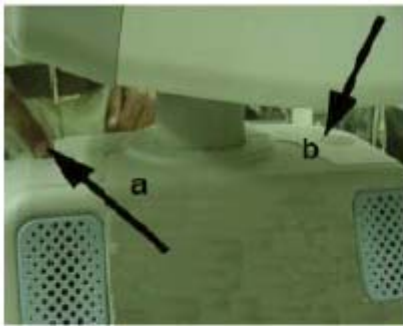

Figure 1
- 1.) Remove two caps (a,b) .Remove two screws (1,2) using "-" Stub B screw driver or a Coin.Lift the Keyboard rear cover up and pull backwards to remove, Refer the figures below(**from Figure 1 to figure 4**).